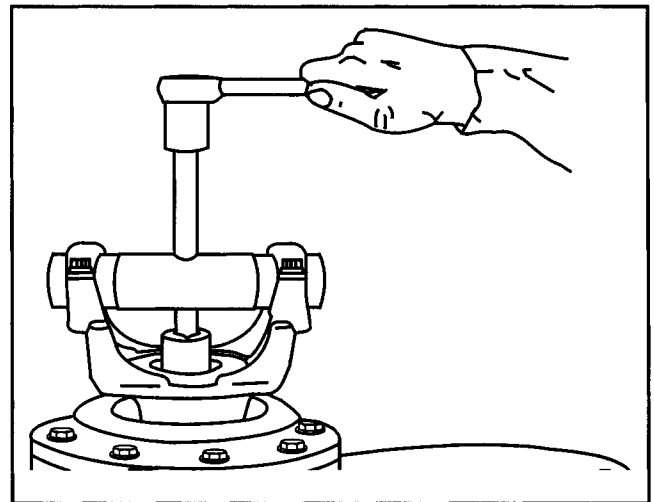

Figure 8
6. Remove input yoke using suitable puller. (See Figure 8)